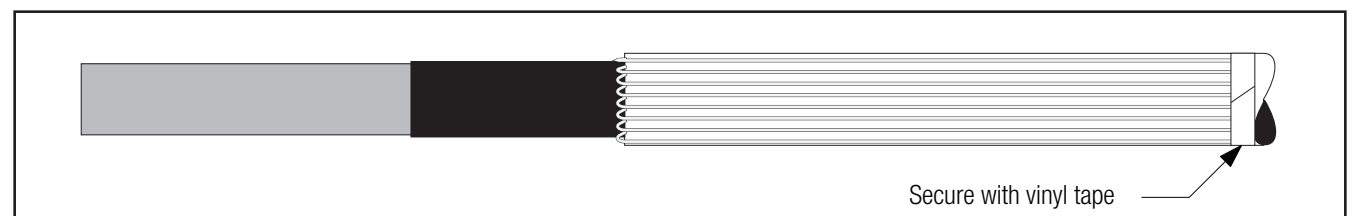

Figure 2
- 2.3 Carefully bend the neutral wires back over the edge of the cable jackets (JCN) or binding wire or tape (CN). Press them against the cable and temporarily secure/cover the end of the wires with vinyl tape (Figure 2).